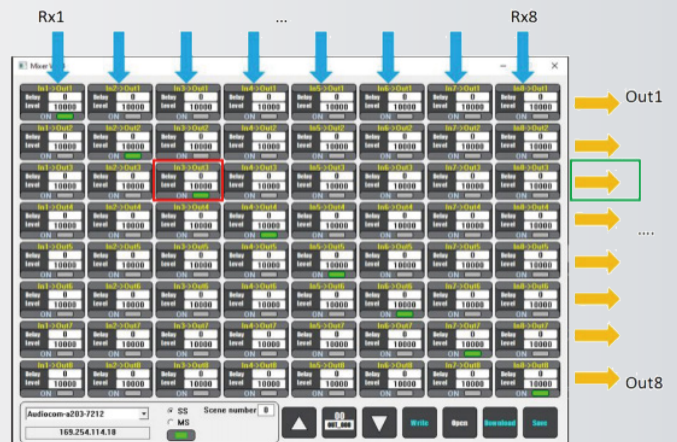

Figure.2
**Connect Device:** Click the switch in the green box on the right side of the device list, and the switch turns green. The online operation is completed. All the operations since then have been performed for this online device. Interface after device connection as shown in Figure 2